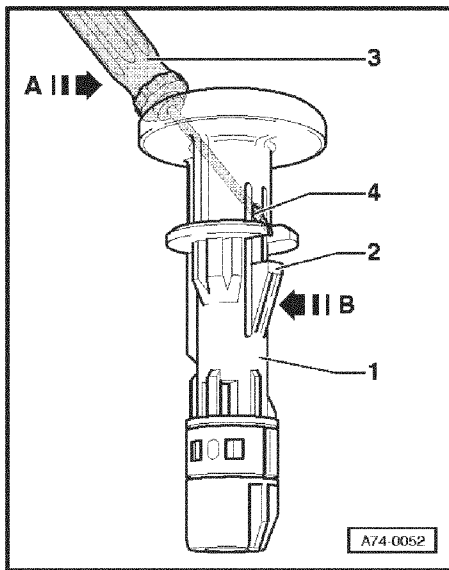

Fig.1 Removing head restraint guides
- Remove head restraint guide => Fig. 1